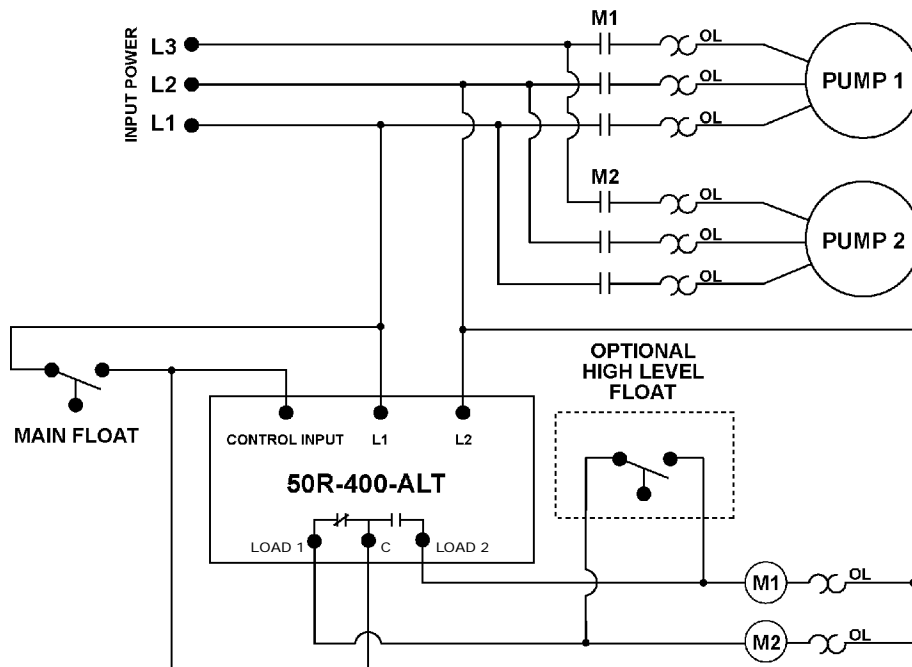

Figure 1. Typical Wiring Diagram for the Model 50R-400-ALT
3. Connect the common relay terminal to the main float and CONTROL POWER input on the Model 50R-400-ALT. Connect LOAD 1 and LOAD 2 to the contactor coils as shown in Figure 1.